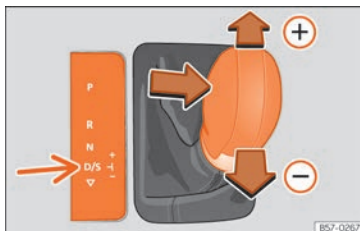

Fig. 222 Centre console: changing gear with tiptronic
- Move the selector lever forwards **+** to select a higher gear **»» Fig. 222.**